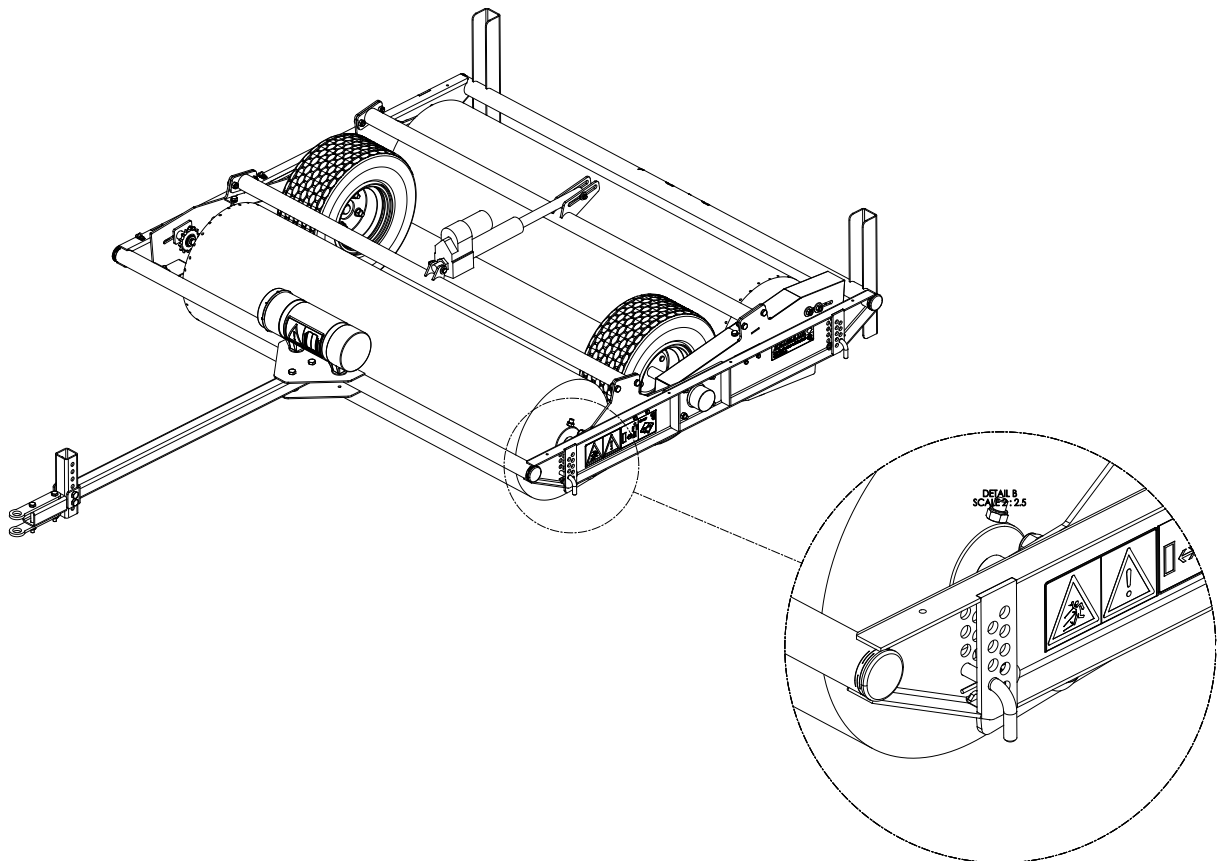

Figure 10
2. Remove the R-clip out of the pin (1) (Figure 10).